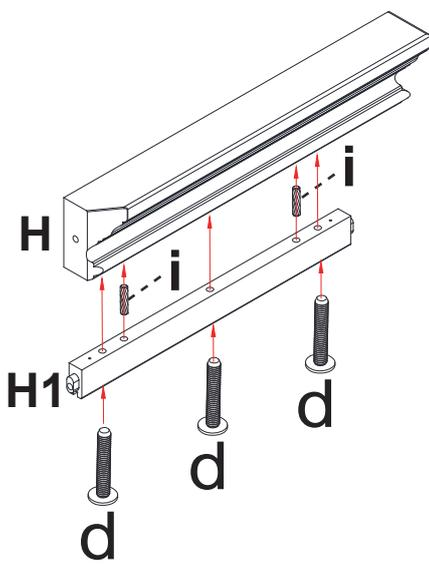
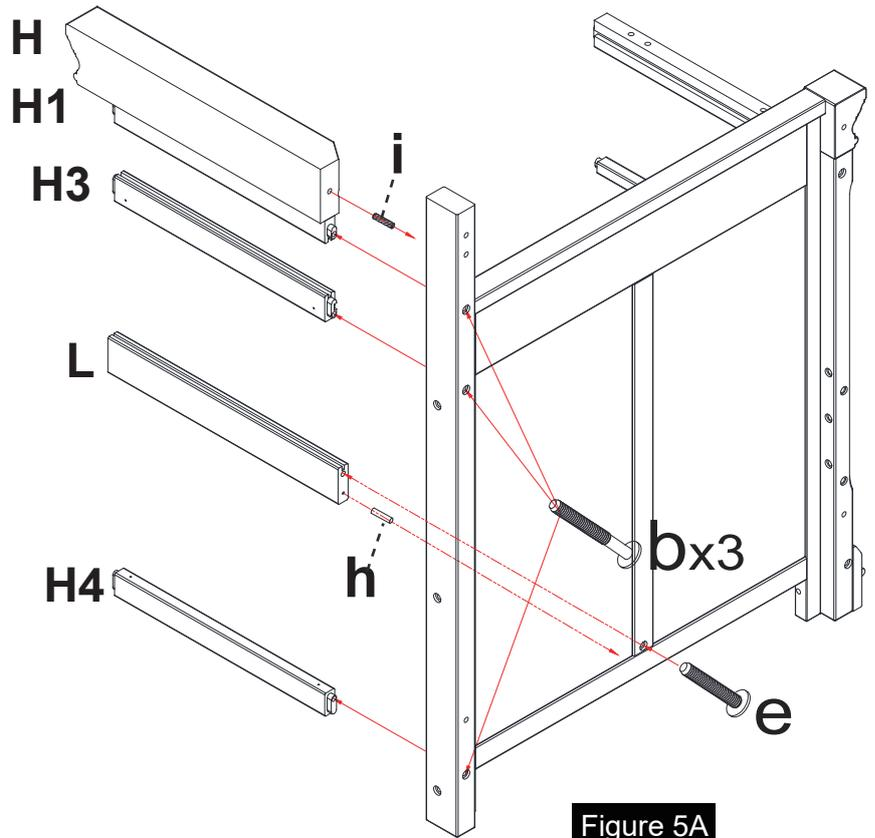

Figure 5 :
Figure 5A
STEP 5 Back Rails & Middle Support Rail Assembly as Shown on Figure 5&Figure 5A.